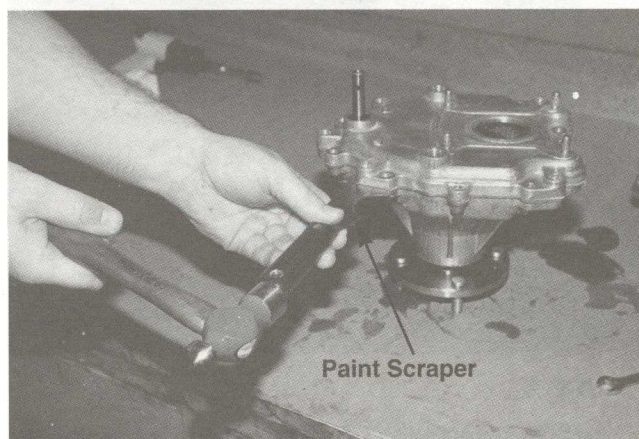

FIGURE 7.
7. To separate the housing halves, use a paint scraper or similar tool to pry the halves apart. Work around the housing to evenly release the housing halves. See figure 7.